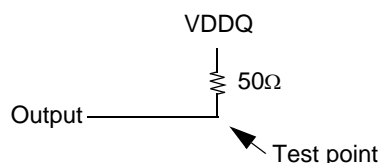

Figure 2 : Pulldown slew rate test load
b. Pulldown slew rate is measured under the test conditions shown in Figure 2.